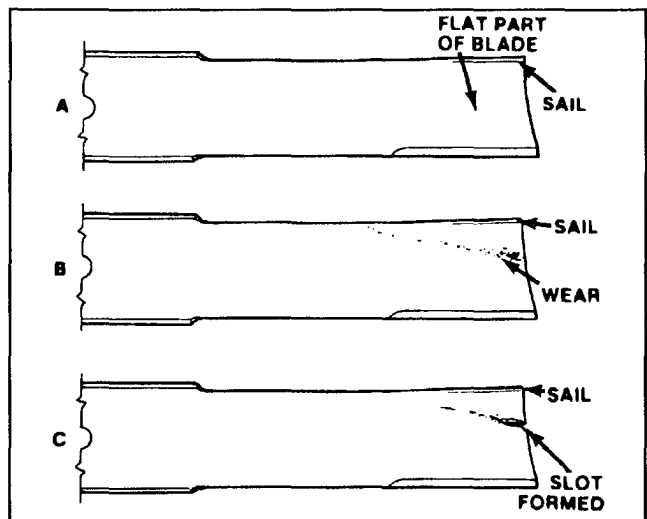

Figure 74
(Fig. 74)
2. Examine cutting ends of the blade carefully, especially where the flat and curved parts of the blade meet (Fig. 74-A). Since sand and abrasive material can wear away the metal that connects the flat and curved parts of the blade, check the blade before using the machine. If wear is noticed (Fig. 74-B), replace the blade: refer to Blade Removal and Installation, page 37.